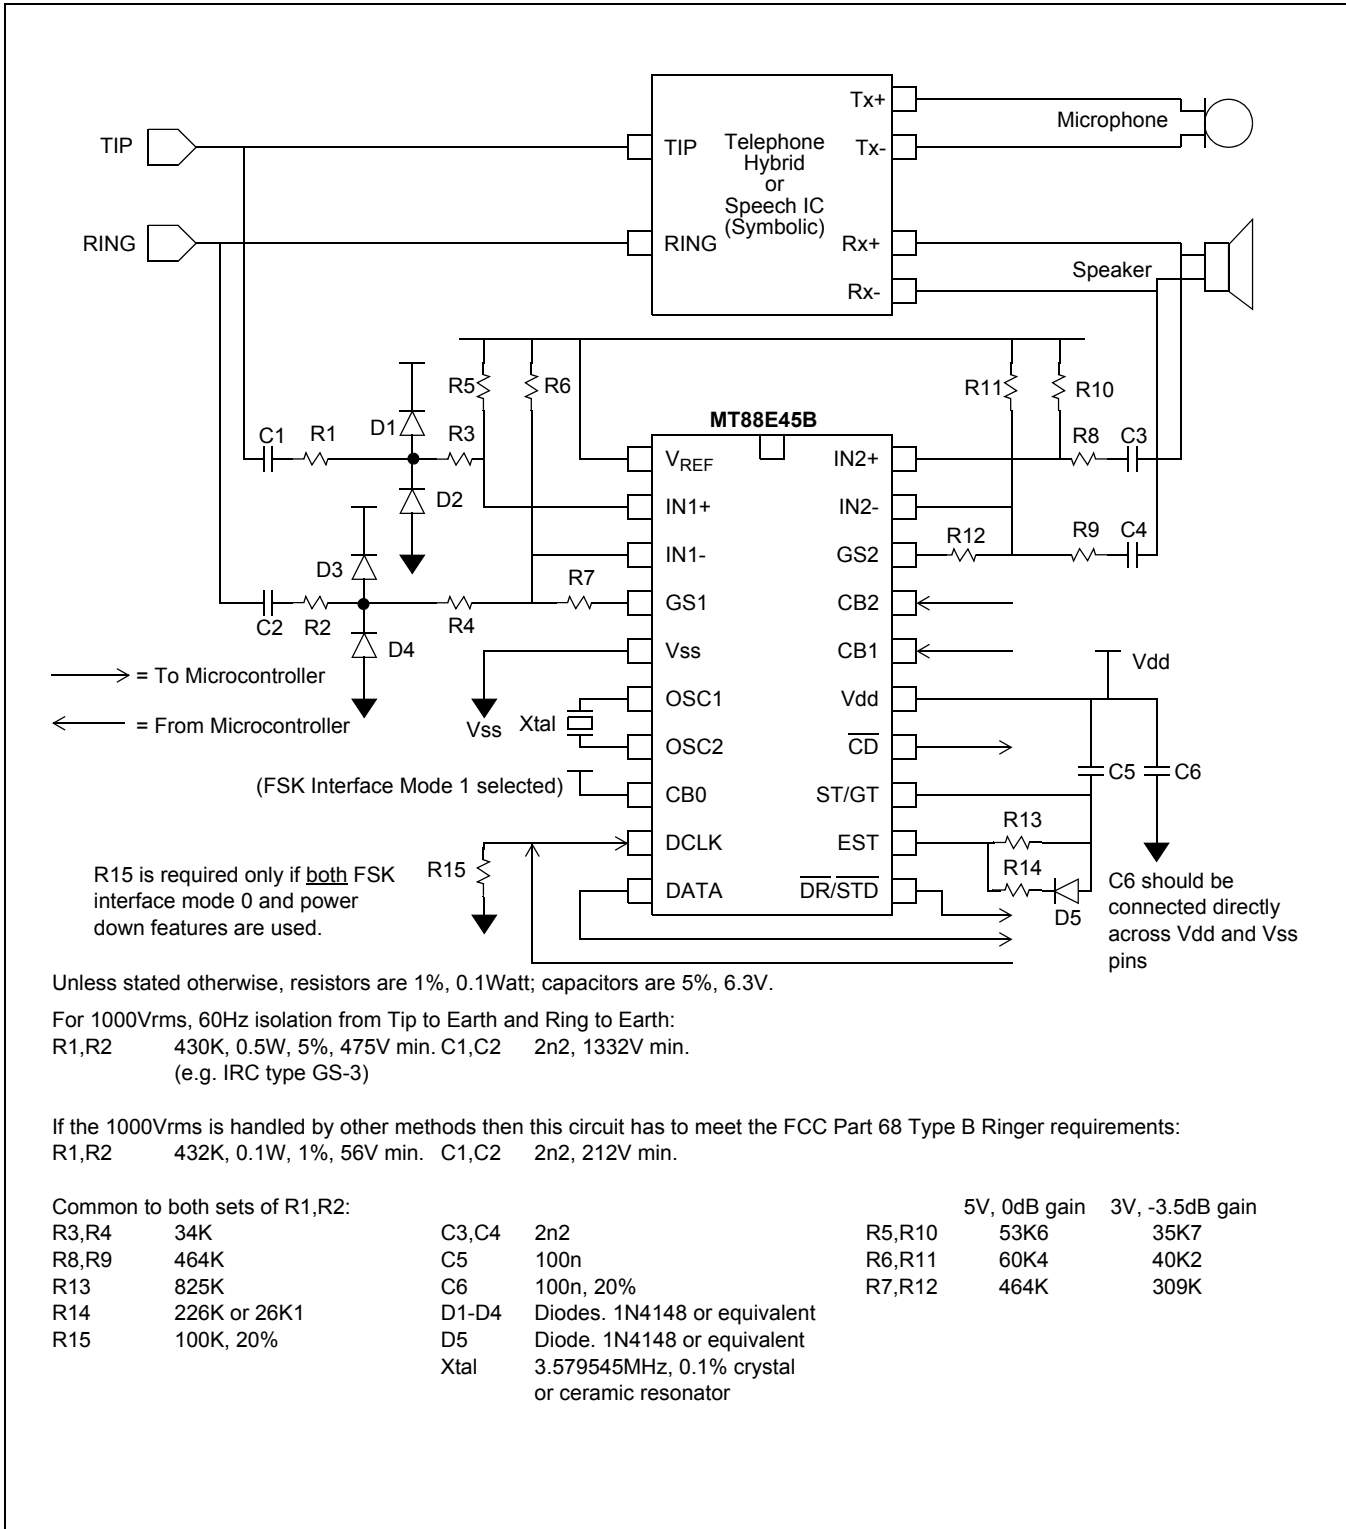

Figure 7 - Application Circuit: Bellcore MEI Compatible Type 2 Telephone
In power down mode both input op-amps, V_{REF} and the oscillator are non functional. DCLK becomes an input because to select the power down state CB0 is 1 which will select FSK interface mode 1. If the application uses FSK interface mode 0 and the MT88E45B needs to be powered down then a pull down resistor should be added at the DCLK pin to define its state during power down (R15 in Figure 7). When the MT88E45B is powered down $\overline{\text{DATA}}$, $\overline{\text{DR/STD}}$, $\overline{\text{CD}}$ are high; EST and $\overline{\text{ST/GT}}$ are low.
- For the GS1 op-amp, start with the 0dB gain setting resistor values of $R_{5_{0dB}}$, $R_{6_{0dB}}$ and $R_{7_{0dB}}$. In Figure 7 these values are 53K7, 60K4 and 464K respectively. Keep C1,C2,R1,R2,R3,R4 as in Figure 7 to maintain the highpass corner frequency constant for all gain settings.